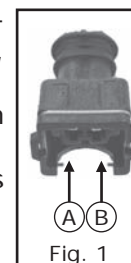

Fig. 1
If the tester reads connection types 1,2, or 3, proceed by following the diagram in figure 1.
**SA144:** use this if the positive of the petrol injectors is on PIN A and the negative is on PIN B. Refer to figure 1.
**SA144INV:** use this if the positive of the petrol injectors is on PIN B and the negative is on PIN A. Refer to figure 1.
**SA143:** use this if the positive of the petrol injectors is on PIN A and the negative is on PIN B. Refer to figure 1.
**SA143INV:** use this if the positive of the petrol injectors is on PIN B and the negative is on PIN A. Refer to figure 1.